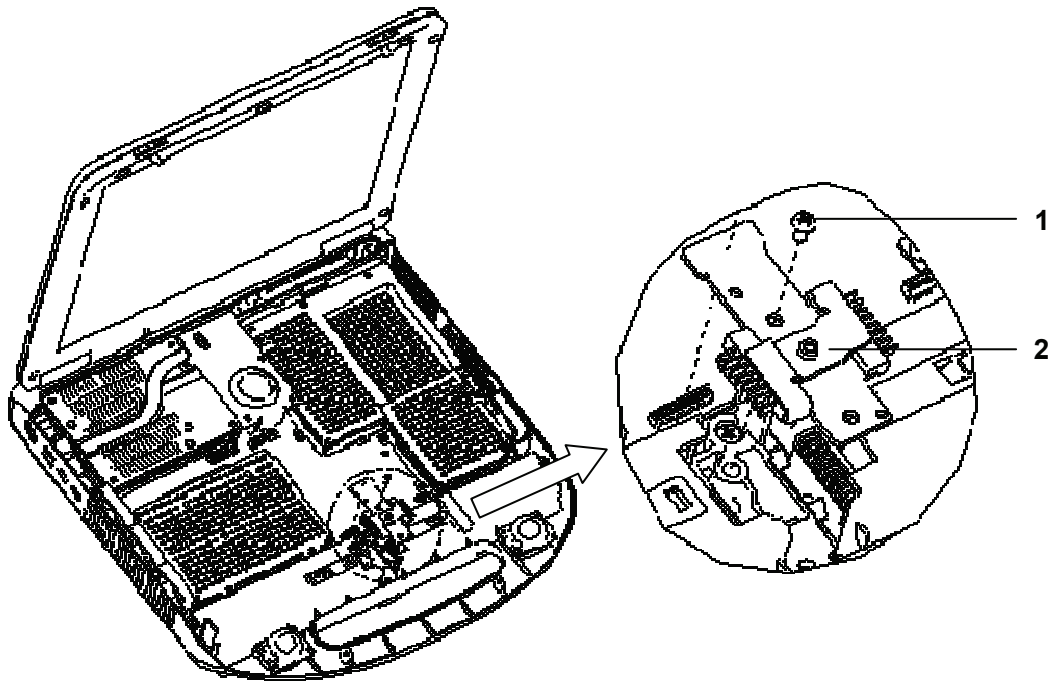

Figure 4-19 Removing Battery Connection Board
- 2) As shown in Figure 4-19, remove Philips panhead screw 1, and disconnect the battery socket pressing board and battery connection board from the main board.